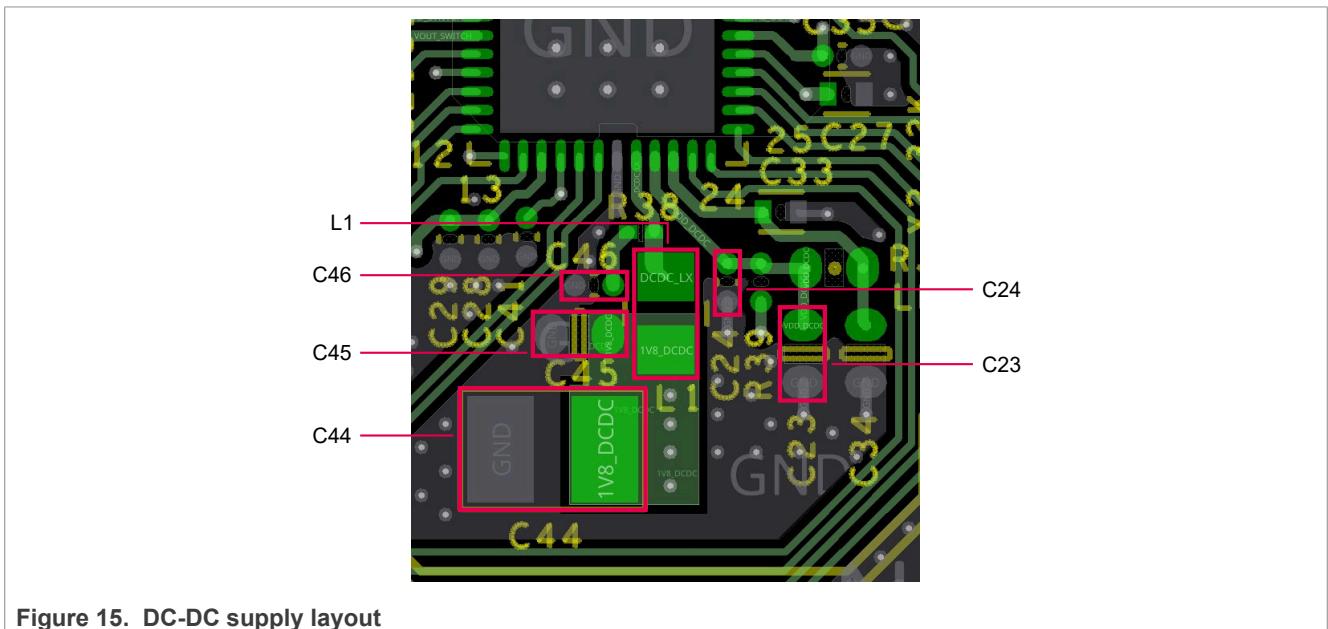

Figure 15. DC-DC supply layout
Figure 15 shows the DC-DC supply layout for the FRDM-MCXW71 board.
- Place the C45 capacitor such that its connection to the inductor L1 is as shown in Figure 15. Also, keep the VSS connection as near as possible to the MCXW71 chip. To create a better VSS connection to the ground plane, you can add more vias.
- Place the C44 capacitor as near as possible to the chip and add vias as shown in Figure 15.